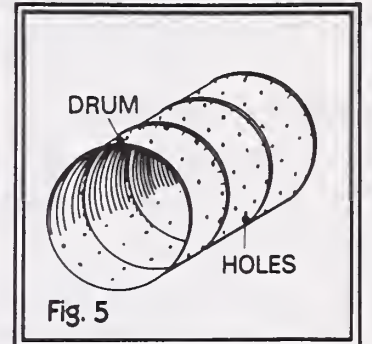

Fig. 5
2. Punch a series of holes (approximately 6 inches to 7 inches apart) around the surface of the drum (fig. 5). Now cut a circular opening in the drum large enough to receive the drainage pipe. The opening should be approximately 6 inches from one end of the drum (fig. 6).
5. Using the hammer and chisel, finish the cuts down to the subfloor (fig. 5). Using the pry bar, and a small block for leverage, lift out the boards to be removed (fig. 6).